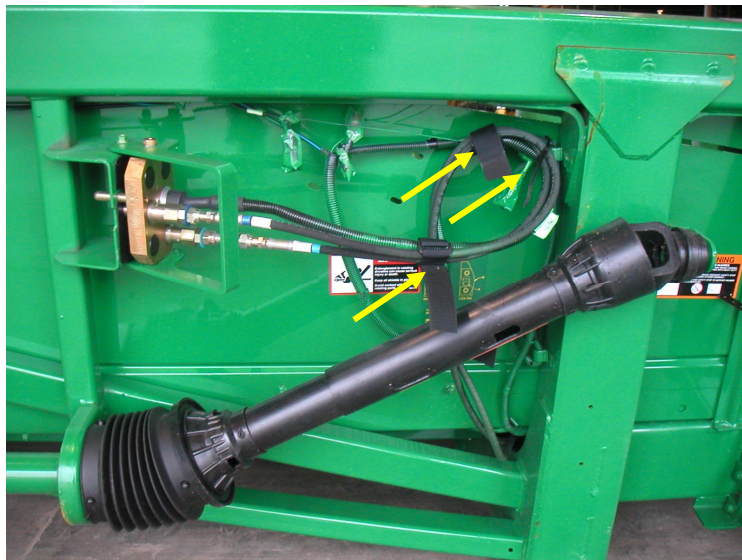

Figure 16
6. Retain hose extensions to back sheet metal with clamps (*LAN-25162), Carriage Bolts (*LAN-202073) and Nuts (*LAN-202073A). Simply position holes and clamps in area easily accessible. Use Velcro straps (*LAN-202510) to take up extra slack in hoses. (See **Figure 16**)